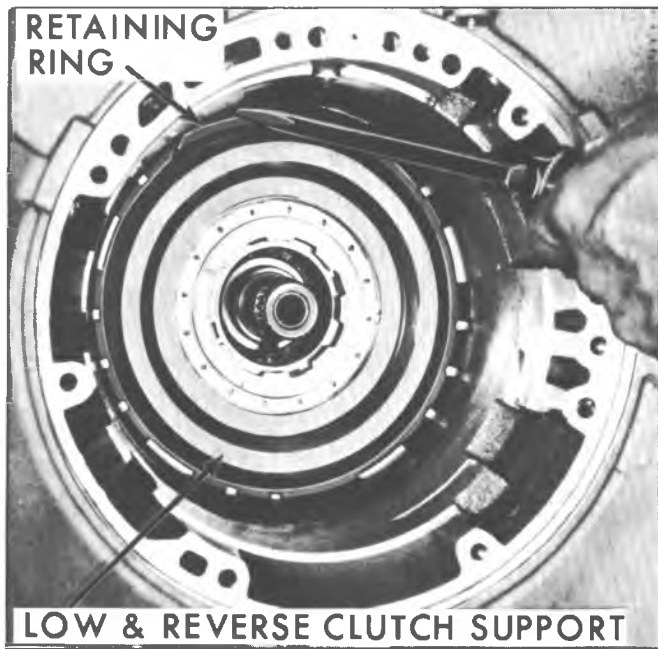

Fig. 7A-42B—Removing Low and Reverse Clutch Support Retaining Ring
14. Remove low and reverse roller clutch support to case retaining ring (fig. 7A-42B).